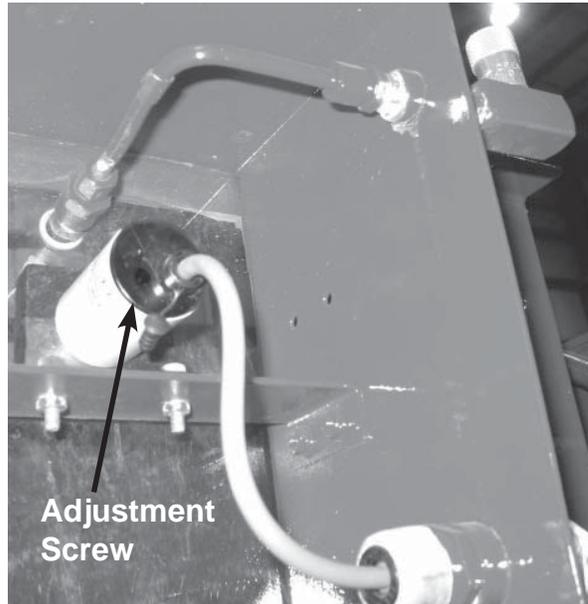

Figure 24 - Level Detector
Two limit switches allow the DVC-10 to monitor plunger location. LS-1 (see Figure 24) is opened when the plunger is fully extended and closed when the plunger is moving or retracted. LS-2 is closed when the plunger is fully retracted and open when the plunger is moving or extended.
**Adjust Level Detector** The cover plug at the back of the level detector covers the sensitivity adjustment (Figure 24). Remove the cover plug. The plug provides a seal against dirt and moisture.